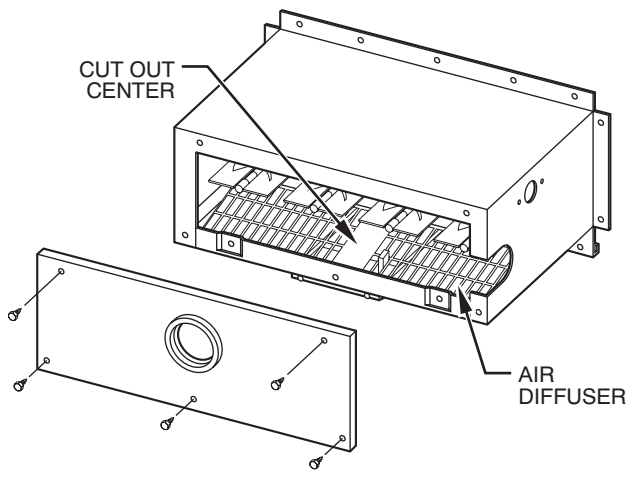

Fig. 54 - Removing Center Section of Air Diffuser
- c. If air diffuser has a solid center, remove center section of air diffuser. (see Fig. 54). Some diffusers do not have a solid center section. It is not necessary to cut the diffuser on these models. Some models do not have an air diffuser as part of the burner box assembly.
- Remove center solid portion of air diffuser. (see Fig. 54.) Use tin snips to cut center portion of air diffuser. Do not overly distort air diffuser. The air diffuser is Tog-L-Locked to burner box.